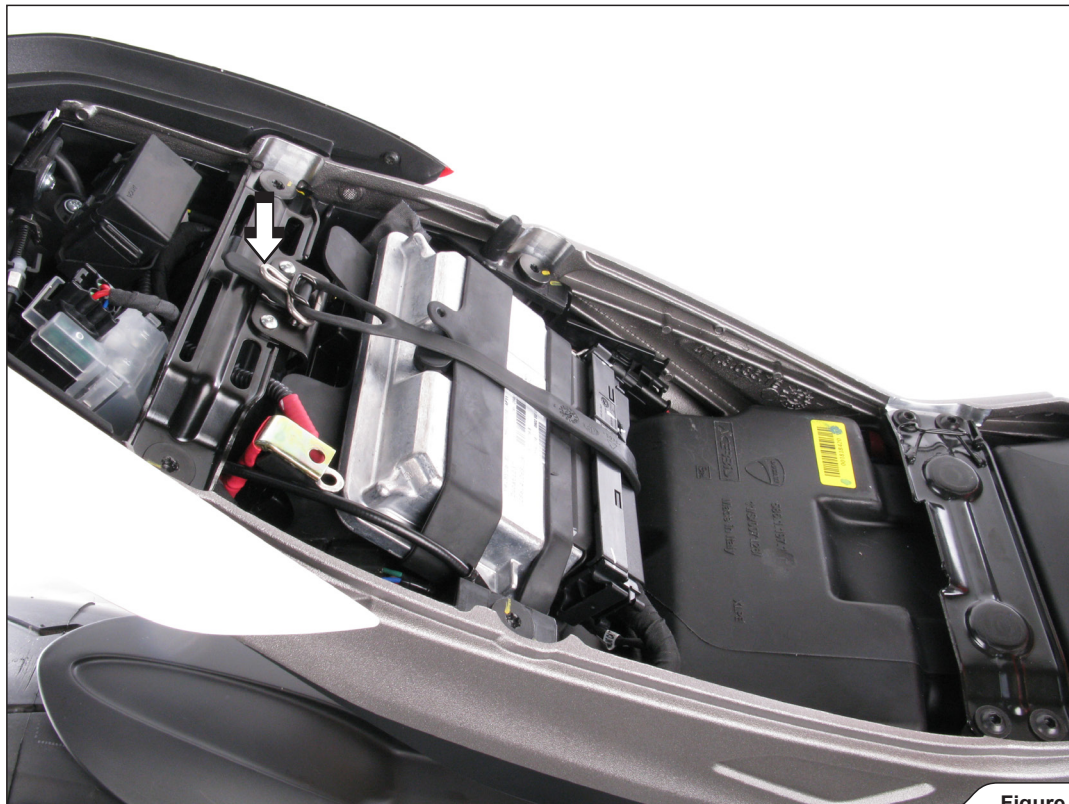

Figure 9
10. For Ducati Hypermotard 939 SP only: Remove the ECU unit and battery (Figure 9).